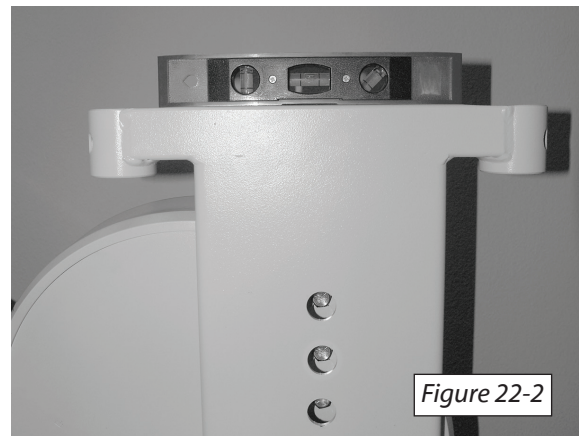

Figure 22-2
5. Rotate the seat support until the top plate is level and tighten the screws. *[Figure 22-2]*